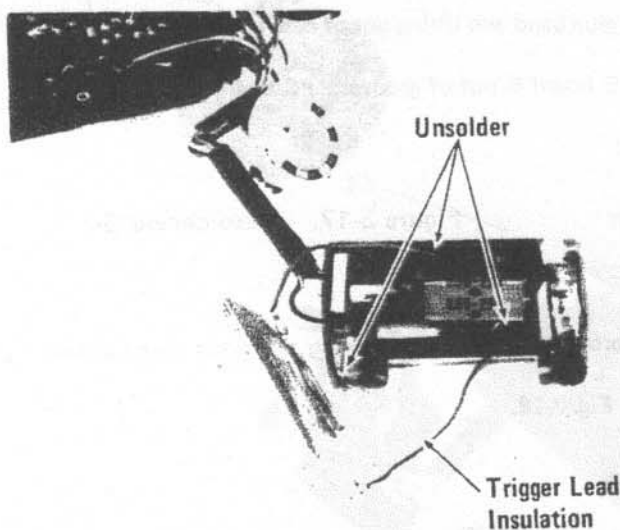

Figure 3-13. Flashtube Removal
- B. To remove the xenon flashtube, unsolder the 3 lead wires where shown. Be careful not to lose the clear plastic insulating sleeve on the trigger lead of the flashtube. Fig. 3-13.